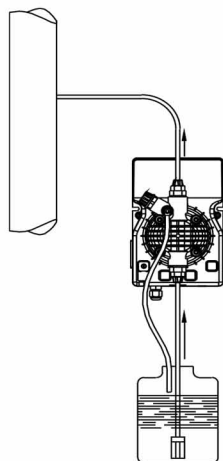
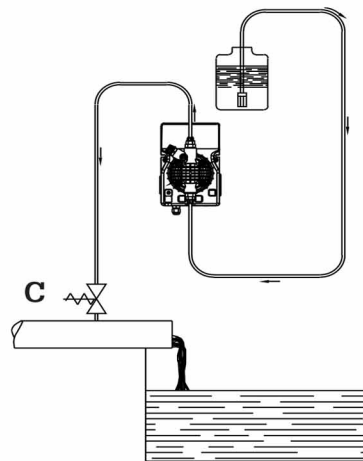

Fig. 5
Fig. 6
- c. - Locate the pump as shown in fig. 5 bearing in mind that it may be installed either below or above the level of the liquid to be dosed, though the level difference should not exceed 2 meters. When the process plant in which the pump is installed is operating at atmospheric pressure (no back pressure) and the chemical tank is situated above the plant (Fig. 6), the condition of the injection valve should be checked at regular intervals, because excessive wear and tear could cause additive to drip into the plant even when the pump is shut down. If the problem persist, install a properly calibrate counter-pressure valve (C) between injection point and the valve. In the case of liquids that generate aggressive vapours, do not install the pump above the storage tank unless the latter is hermetically sealed.